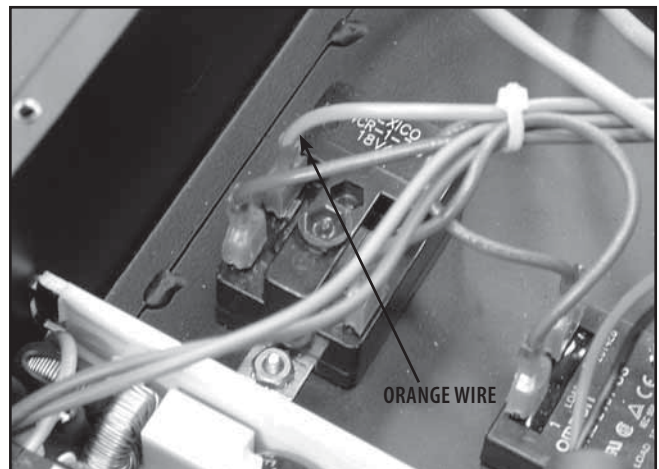

FIGURE 4.10
5. Connect the Black Lead of the Digital Multimeter to the Orange Wire of the Starter Relay. See Figure 4.10.